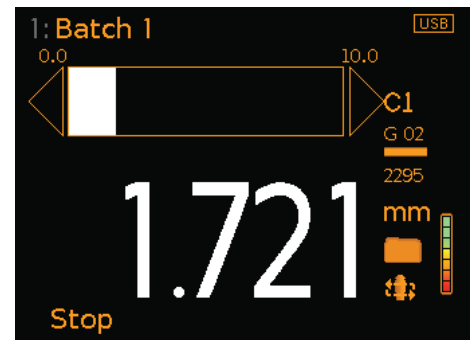

Figure 3
- 4 Press 'Start' to begin the scan and slide the probe over the coated surface (Figure 3).